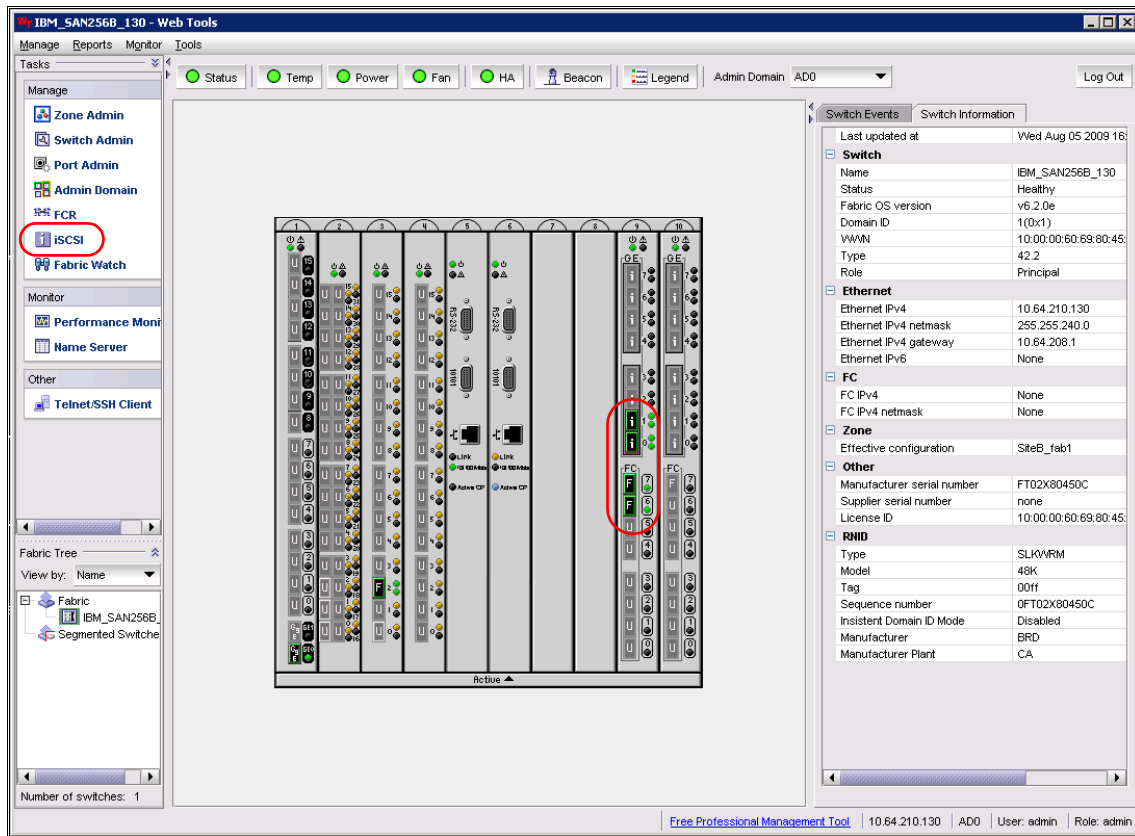

Figure 11-6 SAN256B Web Tools main view
- With the physical setup in place, access the SAN256B's Web Tools management GUI, where you see two iSCSI blades in slot 9 and slot 10. Use the blade in slot 9. Figure 11-6 shows that the two GbE interfaces (depicted by an *i*) and the FC ports where the DS4000 is connected are green, indicating they are active.